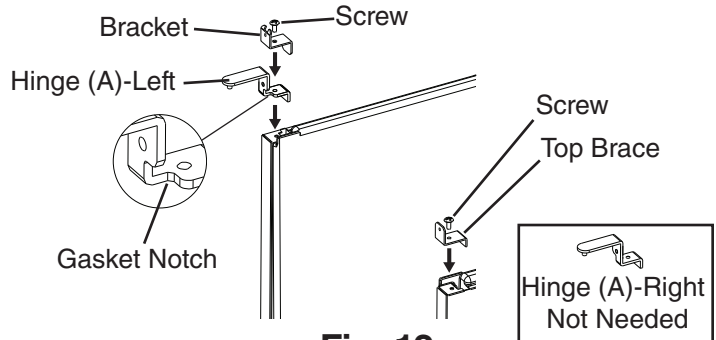

Fig. 12
c) Remove hinge (A)-right and the bracket from the right side of the unit. Set aside hinge (A)-right; it is not needed. Remove the top brace from the left side. Fasten hinge (A)-left and the bracket to the left side and the top brace to the right side. See Fig. 12.